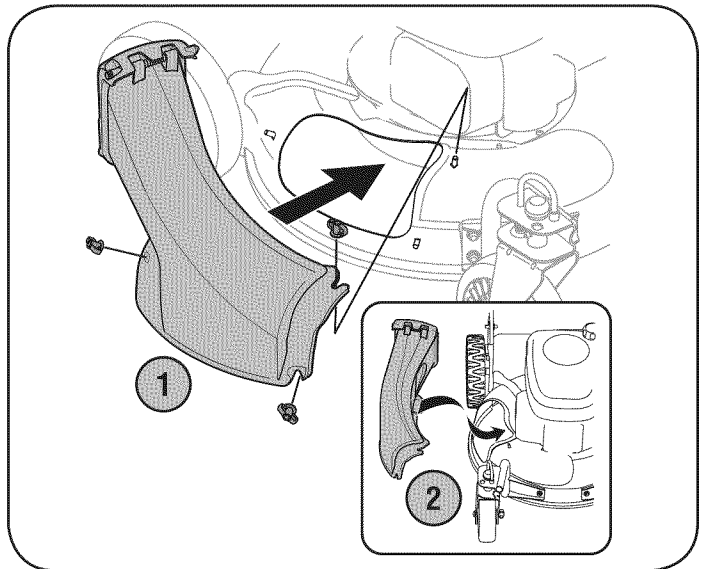

Figure 4
1. Remove three wing nuts holding the mulching baffle in place and remove from unit. See Figure 4.